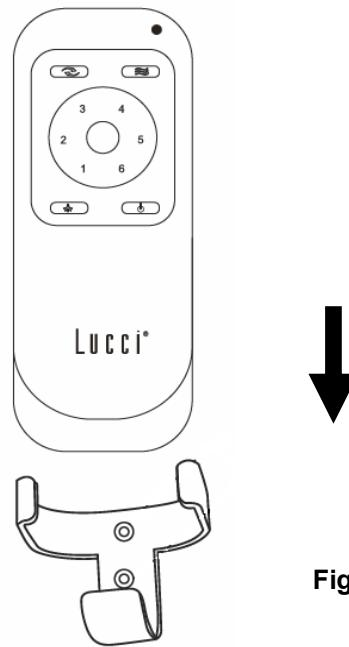

Fig. 12b
2. Slide the remote into the holder. (Fig. 12b)